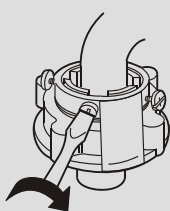

Figure 4
3. Dismount the protecting cover of the drain outlet at the other side (method the same as the drain hose bushing). Install the drain hose bushing as per indicated in Figure 4.
3. Fasten the four screws evenly. See to Figure 4.